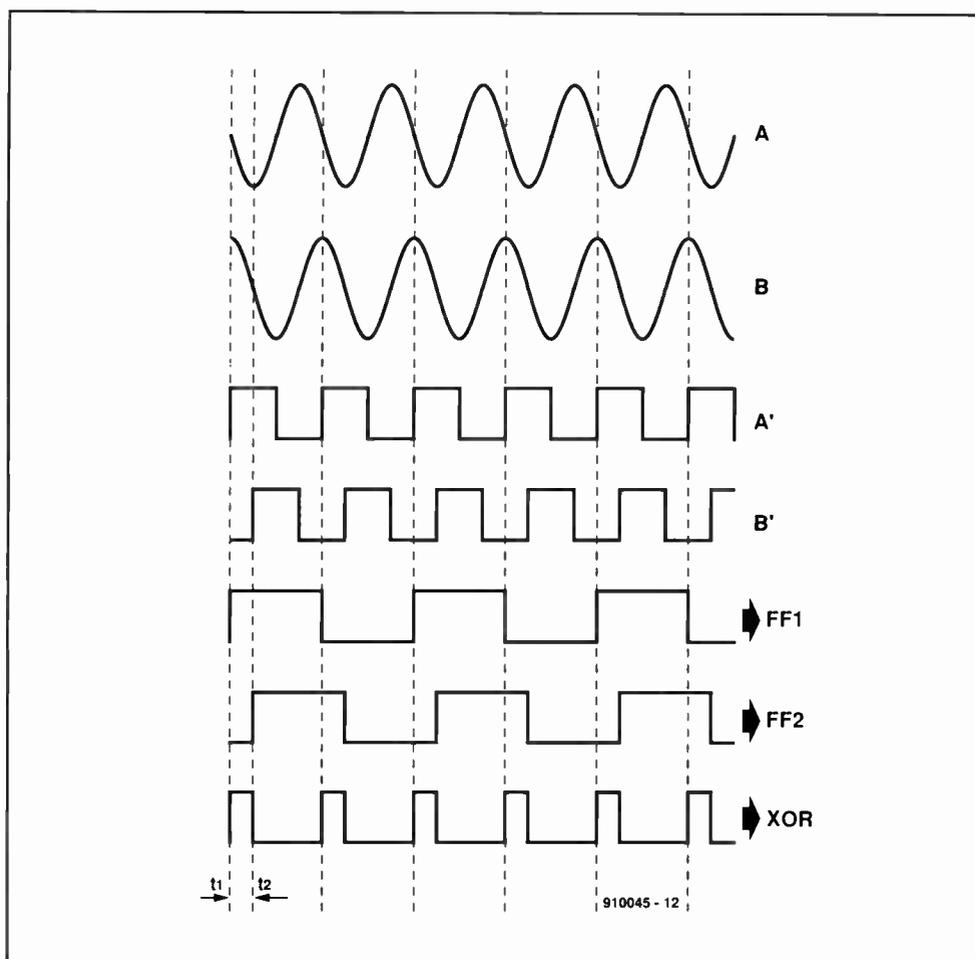

Fig. 2. Timing diagram of the analogue-to-digital conversion section.
The analogue signals presented to the display section are digitized before they are processed. Since alternating signals are involved, this is quite simple: the positive part of the signals is converted to a logic low (0) and the negative part to a logic high (1). The timing diagram in Fig. 2 shows the analogue input signals (A and B) together with their digitized variants (A' and B'). The use of the digitized signals as the clock for a bistable (US: flip-flop) ensures a perfectly symmetrical (i.e., duty factor is 50%) digital output signal at a frequency equal to half that of the input signal. This guarantees that differing lengths of positive and negative half periods, noise and other spurious signals have no effect on the accuracy of the measurements.